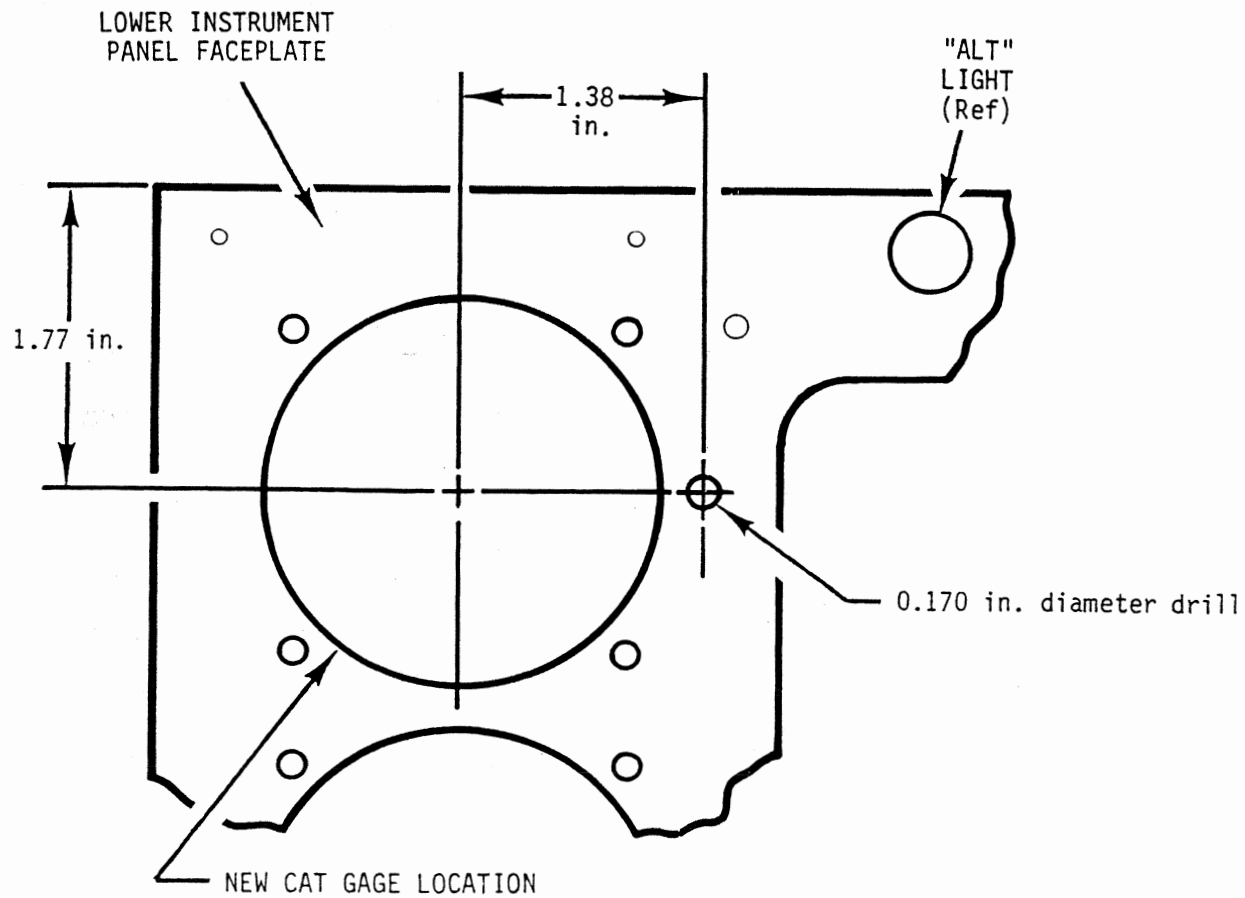

FIGURE 1
- 3) Drill new CAT gage post light hole per dimensions in Figure 1. Remove paint around hole on backside of face plate for post light ground. Install B195-1 post light and connect post light wire to instrument cluster light stud.